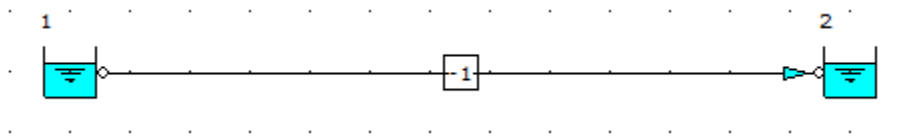

Figure 27: Converged Hydraulic Model
30. Check the converged hydraulic model in the flowsheet. The blue arrowhead shows that the flow direction is from the higher pressure node 1 to the lower pressure node 2. Also, check if the pipe is highlighted in **RED**, indicating that we have a warning message associated with the pipe element (Figure 27).